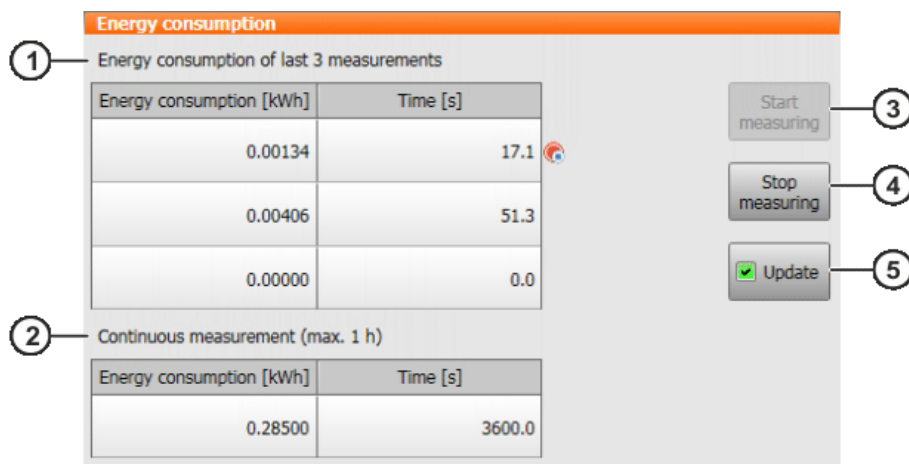

Fig. 4-29: “Energy consumption” window
- In the **Energy consumption** window (>>> Fig. 4-29)